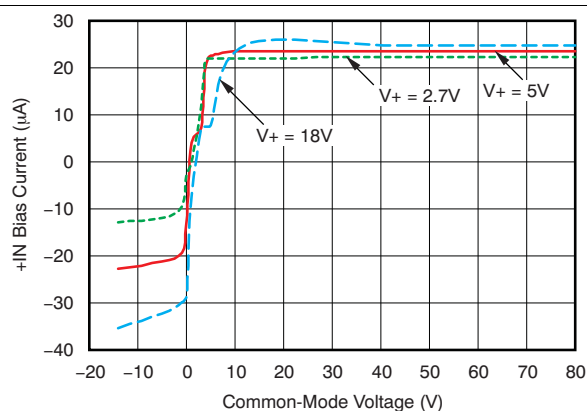

Figure 7. INA283-Q1 +IN BIAS Current vs Common-Mode Voltage
(1) RTI = referred-to-input.
(2) See typical characteristic graph Figure 7.
(3) The average of the voltage on pins REF1 and REF2 must be between V_{GND} and the lesser of ($V_{\text{GND}} + 9\text{ V}$) and V_+ .